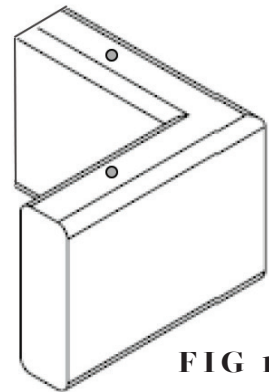

FIG 15.
- Once corner mitre has been fitted together, neatly drill 2 x 3.5mm locating holes down through the top of the sliding door track (in the centre of the rebated slot) and 3.0mm pilot holes (30mm deep) into the nylon corner block (FIG 15).